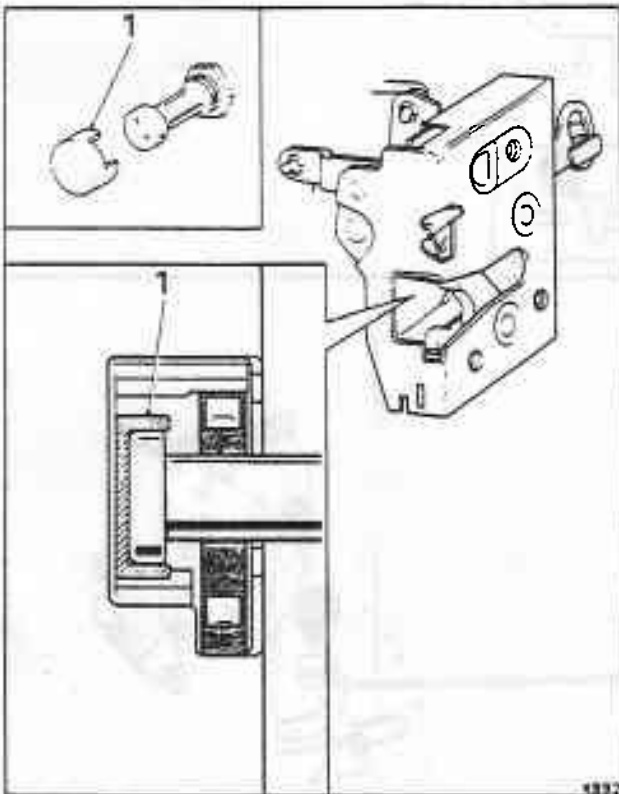

Fig. S4-16 Correct setting of striker pin in lock aperture
3. Carefully offer up the door to the striker pin and screw the pin in or out until the setting piece just contacts the back of the lock (see fig. S4-16).